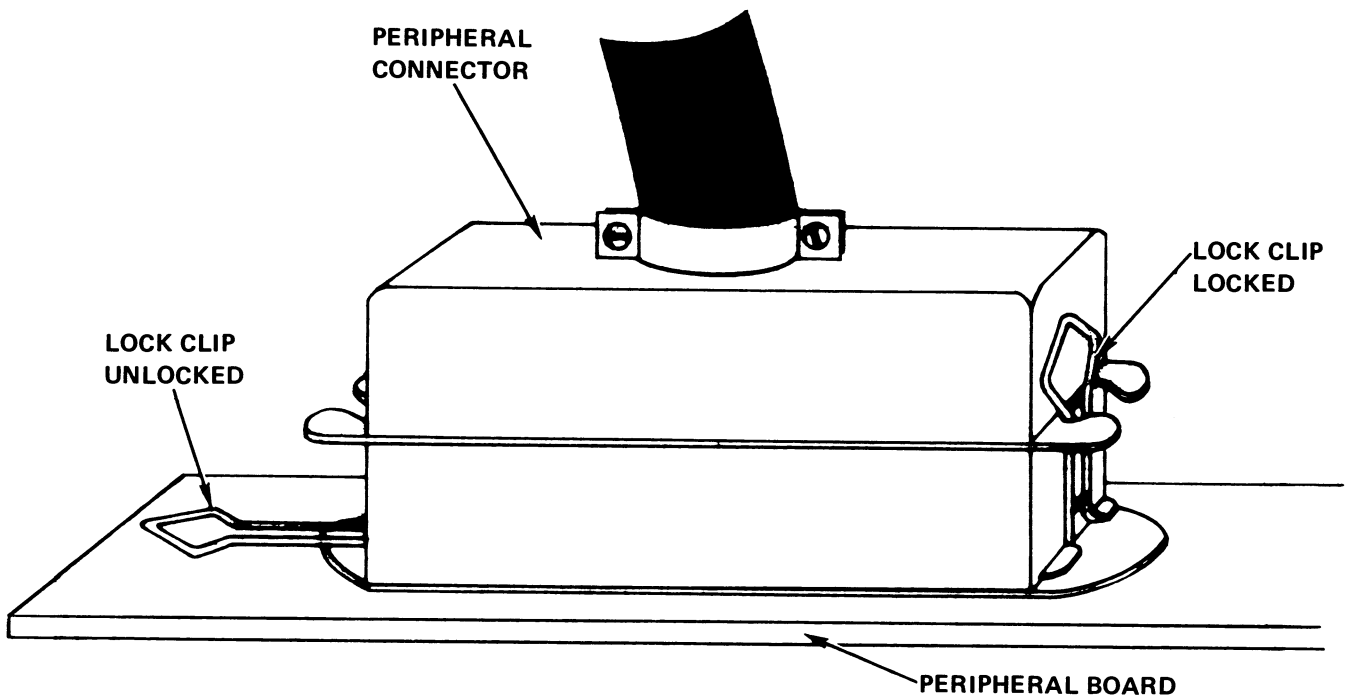

Figure 2. Peripheral Board and Lock Clips
2. The 36 pin Amphenol interface connector must be plugged into the Printer Controller peripheral board and the Lock Clips placed in the up (locked) position (see Figure 2).